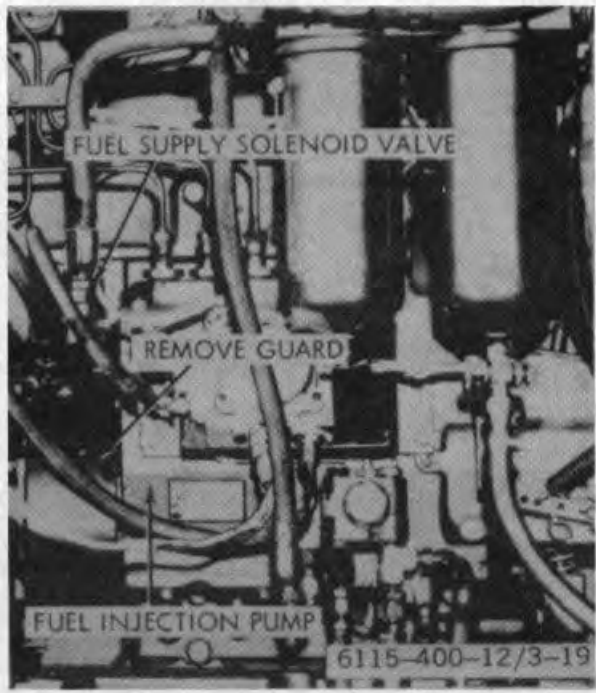

Figure 3-19. Fuel injection pump, removal and installation.
a. Removal. (Refer to fig. 3-19 and 3-20.)
- (1) Remove governor actuator with hoses attached.
- (1) Before installing the pump on the engine, make certain the No. 1 piston is on its compression stroke. Refer to figures 3-19, 3-20, 3-21, and 3-22.